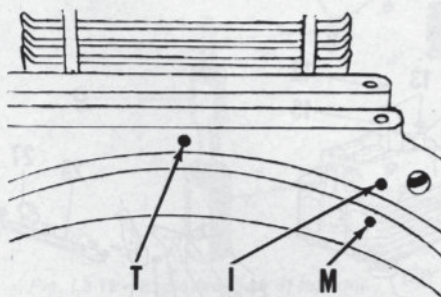

Fig. L3-6 - View of timing marks located on fly-wheel of some models.
Injection occurs between 28°30' and 30°. To check injection pump timing on Models 834 and L54, rotate crankshaft so injection timing mark (I - Fig. L3-6 or L3-7) is aligned with reference mark
delivery valve holder (25) and remove spring (23) and delivery valve (22) and then screw delivery valve holder (25) into pump. Move throttle to full speed position. Rotate engine in normal direction (counter-clockwise at pto) so number 1 piston is on compression stroke. Note fuel in delivery valve holder will spill out of holder. Stop rotation at moment fuel ceases to flow out of holder. Timing marks (I and M - Fig. L3-6 and L3-7) should be aligned. To advance injection timing, remove shim